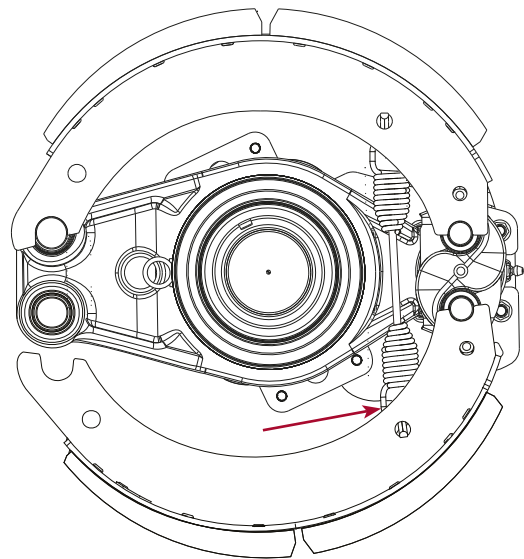

Figure 53: Return Spring Installed onto Lower Brake Shoe
6. With the lower brake shoe roller on the S-cam, swing the lower brake shoe into position over the anchor pins. Refer Figure 53.